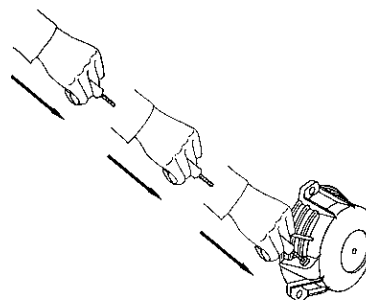

Fig. 3
- b) By means of a recoil starter: Pull strongly on the rope. After starting the engine, do not let the handle out of your hand but accompany it back to the starter housing (see Fig. 3).